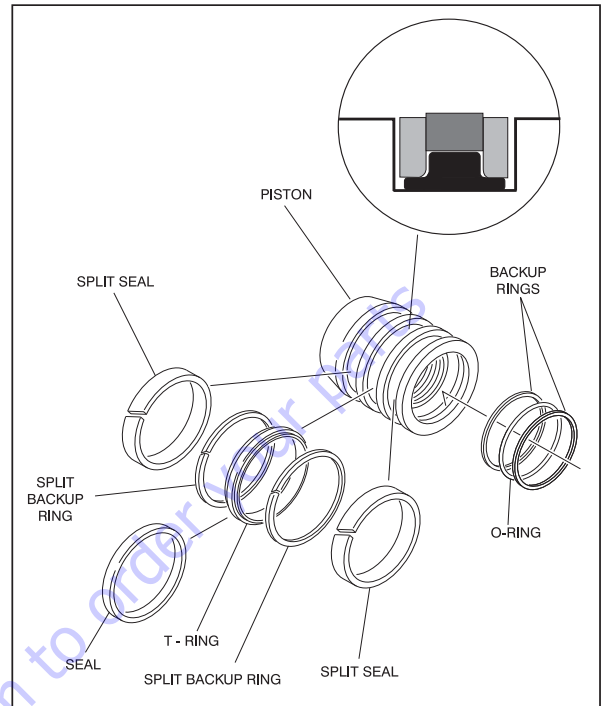

Figure 5-19. Piston Seal Kit Installation
NOTE: The backup rings for the solid seal have a radius on one side. This side faces the solid seal. (See magnified insert in Figure 5-19.) The split of seals and backup rings are to be positioned so as not to be in alignment with each other.
16. Place new guide locks and seals in the applicable outside diameter grooves of the cylinder piston. (See Figure 5-19., Piston Seal Kit Installation)